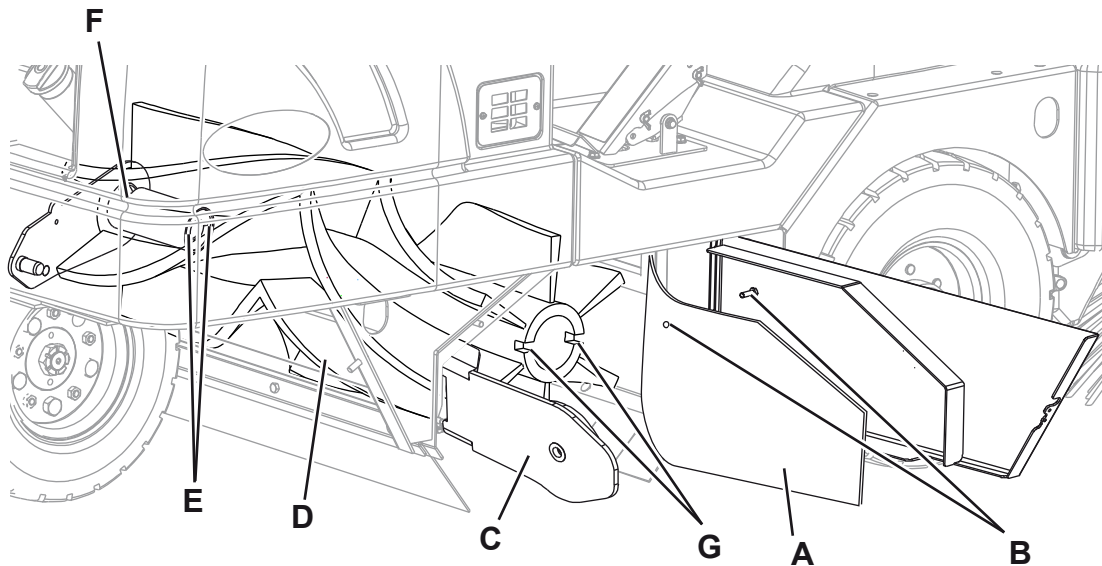

Figure 2
3. Turn the ignition key (66) and start the machine.
4. Lower the main broom with the lever (53).
5. Turn the ignition key (66) to "O" to stop the machine.
6. Open the right panel (18).
7. Move aside the right side skirt (A, Fig. 2) and fasten it with the pin (B).
8. Pivot the idler arm assembly (C) out of the main broom core (D).